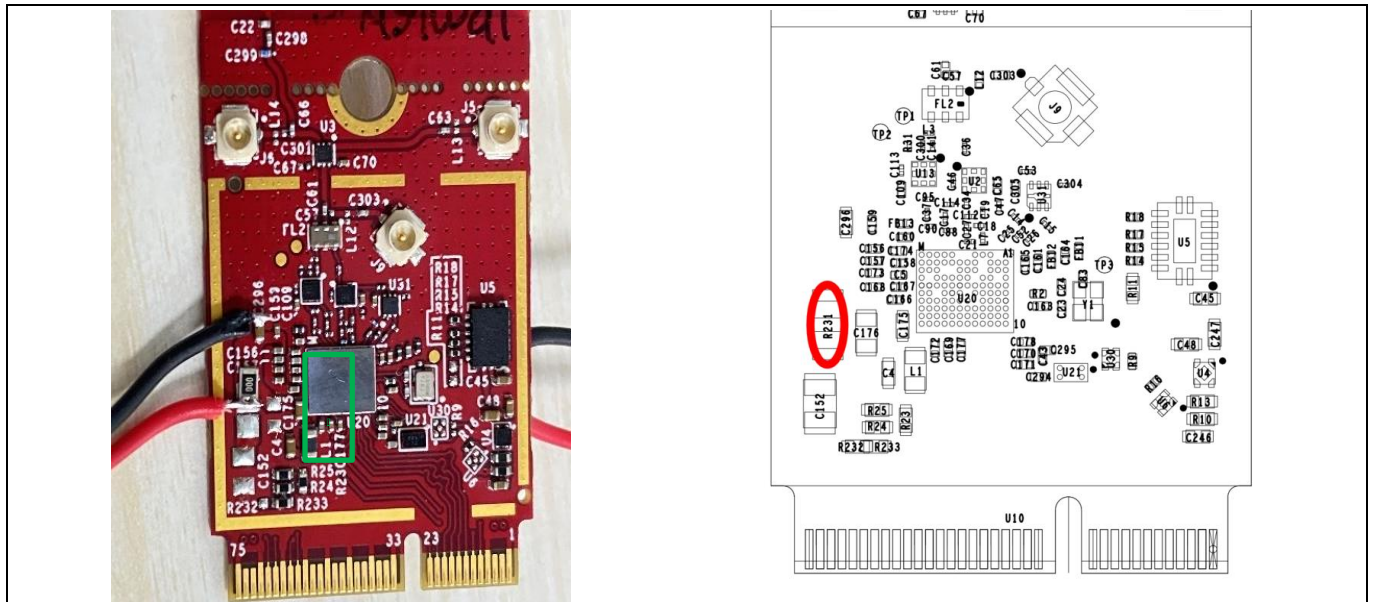

Figure 3 CYW43022 – VBAT rework
- **VBAT changes:** Remove R231 0Ω resistor to measure VBAT current (I_{VBAT}) individually (the red and black wires highlighted in Figure 3 are connected at the VBAT pad) and connect both wires across the pad of the resistor where the power monitor is in series (ammeter mode) connection.